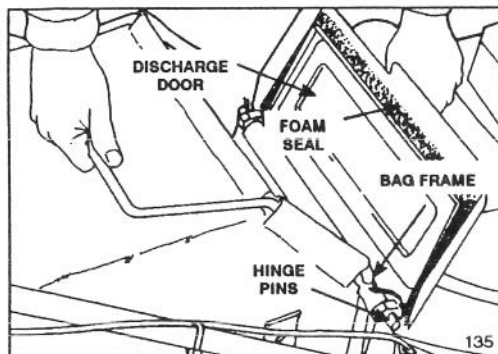

Figure 10
2. **INSTALLING BAG** – Raise discharge door and hook bag frame onto hinge pins (Fig. 10). Allow bag to rest on mower housing over discharge opening. Close door and make sure it seals around top of bag opening.